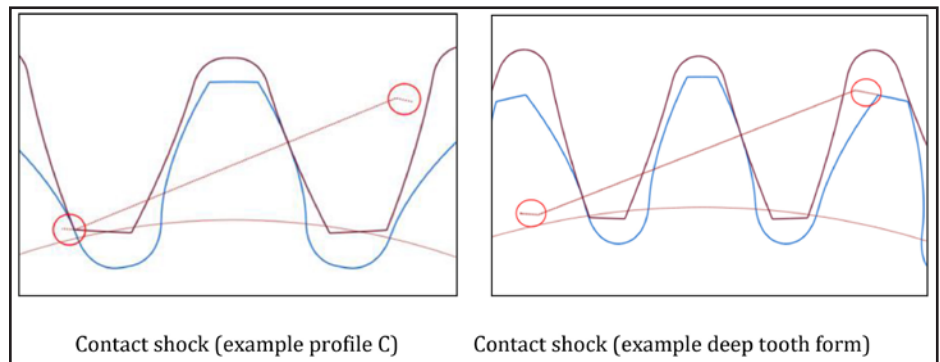

Figure 14 Contact shock.
The transmission error (TE) describes the deviation of the theoretical contact point from the point of contact under consideration of tooth deformation. Especially the peak-to-peak transmission error (PPTE) is a valuable parameter for noise optimization. The Fourier transformation provides the orders of harmonics and allows evaluation of the excitation frequencies. From the transmission error and contact stiffness, it is possible to derive the excitation force (EF) (Ref.7) that allows comparison of different geometric solutions in terms of vibration excitation and — along with the transmission error — to find the best variant with reduced gear noise. Furthermore, the path of contact under load shows the change of pressure angle at the beginning and end of the meshing. This phenomenon will later be referred to as “contact shock” (Fig. 14).